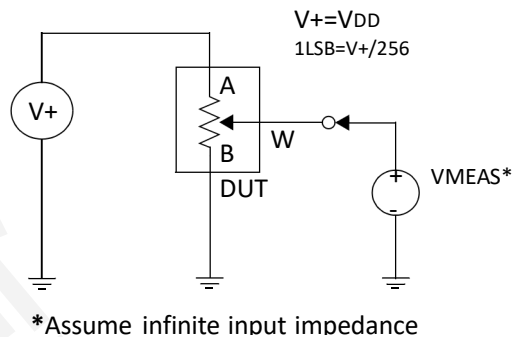

FIGURE 2-25 Potentiometer Divider Non- Linearity Error Test Circuit (DNL, INL).
3. INL and DNL are measured at V_W with the device configured in the voltage divider or potentiometer mode. V_A = V_{DD} and V_B = 0V. DNL specification limits of ±1 LSB max are specified monotonic operating conditions. See Figure 2-25 for test circuit.
4. Resistor terminals A,B and W have no restrictions on polarity with respect to each other. Full-scale and zero-scale error were measured using Figure 2-25.